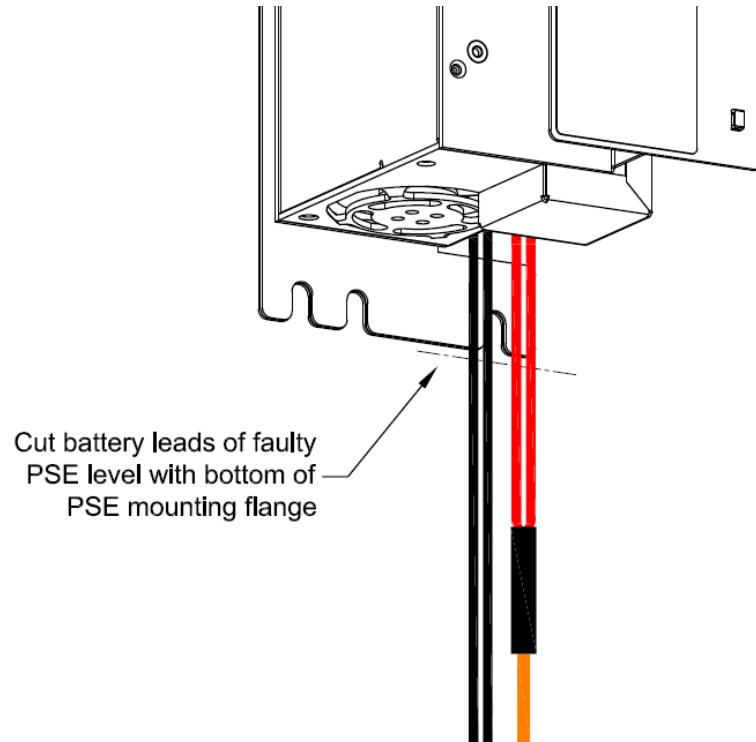

Figure 5 - Cut the Battery Leads just below the PSE being replaced
- 4) Cut the red and black battery leads that extend from J6 and J7 into the battery loom just below the bottom of the PSE. Refer to Figure 5.